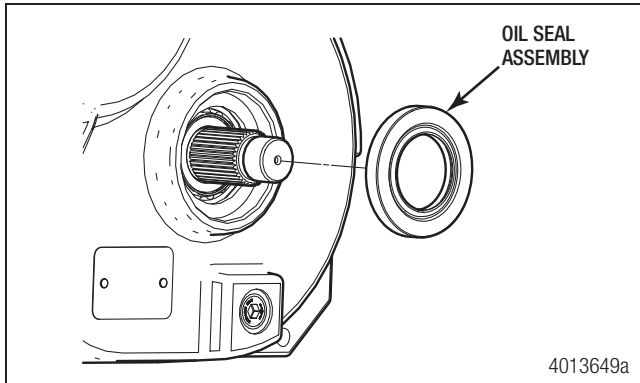

Figure 7.52
2. Install the oil seal assembly in the front output case bore. Drive the output seal assembly in until it stops, below flush of the bore. Figure 7.52.